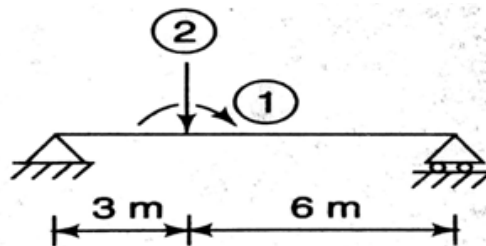

Figure 2
2. (a) Develop the flexibility matrix for prismatic member AB with hinged support at A and roller support at B as shown in Figure 2. [7 M]